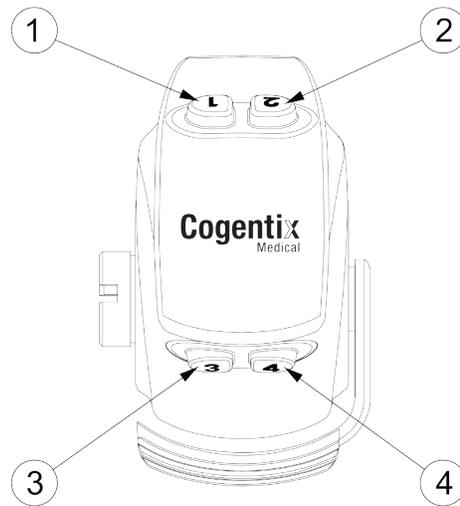

Fig. 3-4: Videoscope Control Buttons
- Four (4) Control Buttons that can be programmed to activate various Video Processor functions (see Figure 3-4). Programming the buttons is done using the Processor’s Buttons Menu, covered in Chapter 5, *Menus and Sub-Menus*.